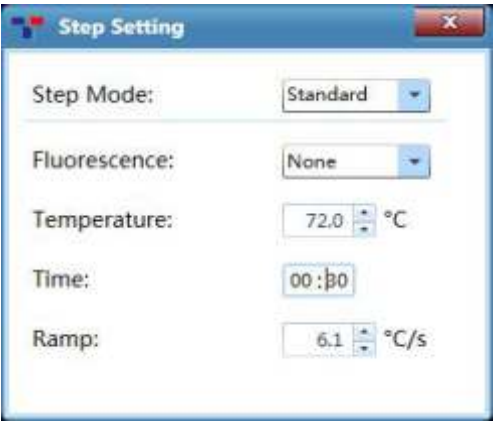

Figure D-5.6a Step Setting dialog box – Standard step mode
5. **Step Setting:** double click any step in the step list or in temperature program area to edit the selected step, the application software will pop up the **Step Setting** dialog box for users to edit the selected step, as shown in figure D-5.6a.
- a. **Standard Step Mode:** users can set the **Temperature**, **Time**, **Ramp** for the standard step and decide whether to read its **Fluorescence**, as shown in figure D-5.6a.